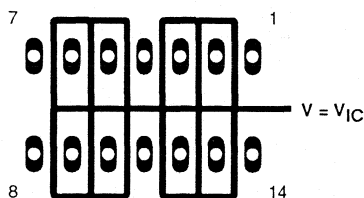
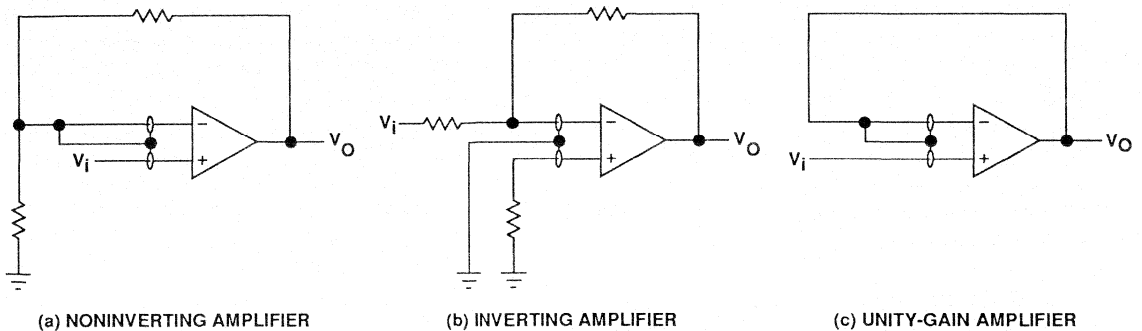

Figure 33. Isolation Metal Around Device Inputs
Figure 37. Guard Ring Schemes
1. Isolate the device from other potential leakage sources. Use a grounded shield around and between the device inputs (see Figure 33). Leakages that would otherwise flow to the inputs will be shunted away.
Because of the extremely high input impedance and resulting low-bias current requirements, the TLV2324 is well suited for low-level signal processing; however, leakage currents on printed circuit boards and sockets can easily exceed bias-current requirements and cause a degradation in device performance. It is good practice to include guard rings around inputs (similar to those of Figure 33 in the Parameter Measurement Information section). These guards should be driven from a low-impedance source at the same voltage level as the common-mode input (see Figure 37).